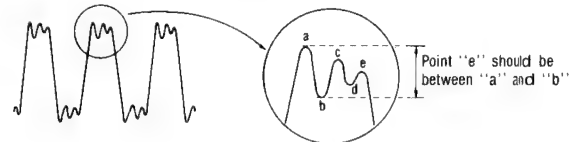

Fig. 27
3. Shift the mode to tape monitor, then adjust VR5 (L-CH) and VR6 (R-CH) so that the output waveform from LINE OUT satisfies the specification shown in fig. 27.